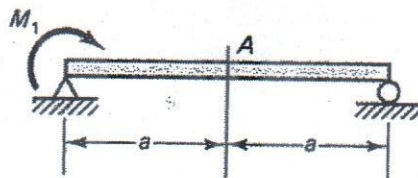

Fig. 9
5. (a) Using the moment-area method, determine the deflection and the slope of the elastic curve at point A due to the applied loads for the beams, as shown in Fig. 9. Specify the direction of deflection and of rotation for the calculated quantities. EI is constant. Let $E = 29 \times 10^3$ ksi or 200 GPa. Prepare sketch of the elastic curve showing inflection points. (10)